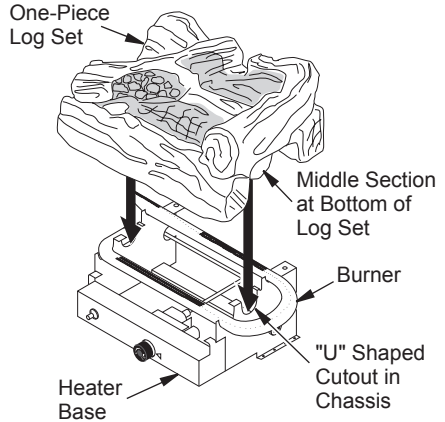

Figure 14 - Installing One-Piece Stove Log Set
1. Set one piece log on heater base as shown in Figure 14. Make sure middle section at bottom of log is seated into "U" shaped cutout in center of heater base. Log will fit securely on base.
IMPORTANT: Make sure log does not cover any burner ports and does not touch the stove cavity (see Figure 14).